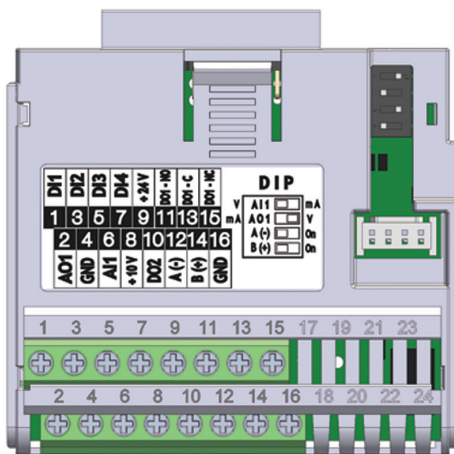

Figure 17.1: Plug-in module CFW500-IOS
The CFW500-IOS plug-in module has only Serial (1) interface through RS485 port at terminals 12(A-) and 14(B+), see Figure 17.1 on page 17-1.